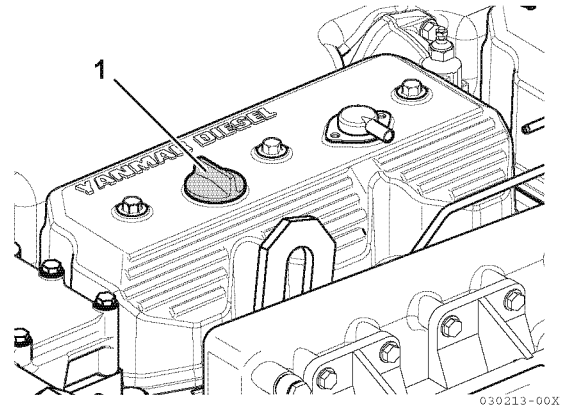
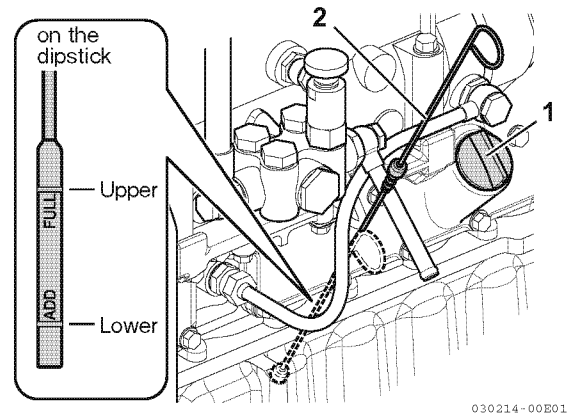

Figure 5
Figure 6
1. Remove the yellow oil filler cap (1, **Figure 5**), (1, **Figure 6**) attached to the rocker cover or the engine side cover and pour lubricating oil if it is not enough.
2. Fill with lubricating oil up to the full line on the dipstick (2, **Figure 6**).
3. Fully insert and remove the dipstick (2, **Figure 6**) to check the oil level. As a guideline, the upper limit capacity of the oil pan is 33 liter.
4. Retighten the oil filler cap (1, **Figure 5**), (1, **Figure 6**).